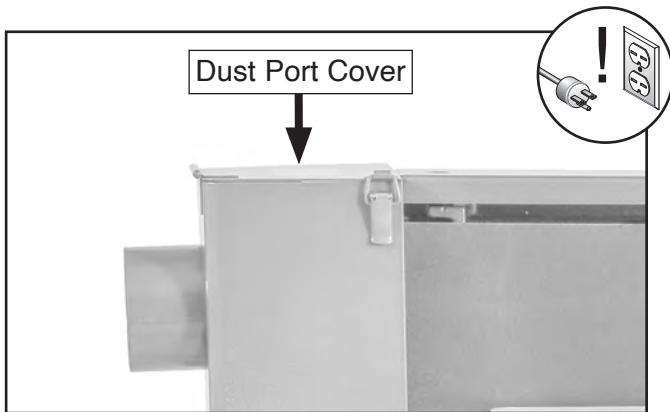

Figure 58. Location of dust port cover.
2. Unlatch and open dust port cover shown in **Figure 58**.